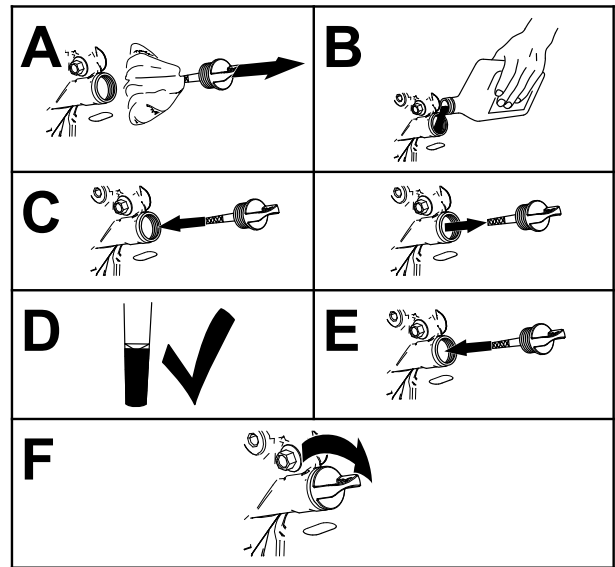

Figure 36
4. Slowly pour approximately 80% of the specified oil into the filler tube, and slowly add the additional oil to bring it to the **Full** mark (Figure 36).